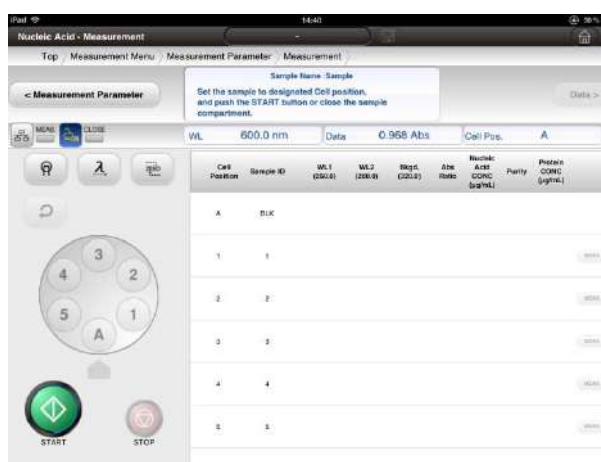

Fig. 4-59 Sample Setting Window
- (1) Press  [measurement button] and move to the sample measurement window.
- (2) The sample setting window (Fig. 4-59) will be shown. Functions shown in Table 4-39 can be used while waiting for measurement.